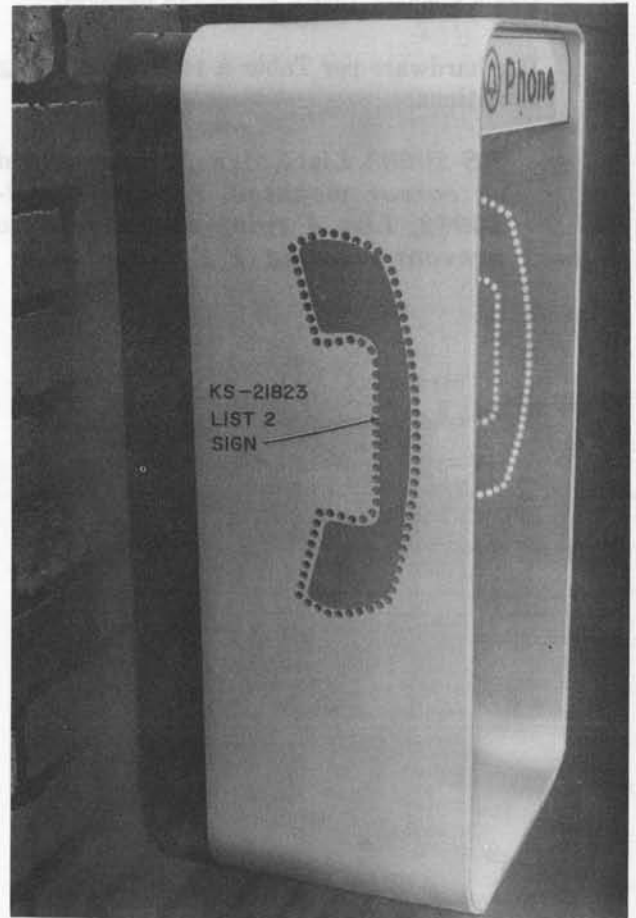

Fig. 22—KS-20842, List 31 Housing With KS-21823, List 2 Sign Installed
- Intended for indoor or outdoor use; primarily for the KS-20842, List 31 coin telephone housing (Fig. 22).